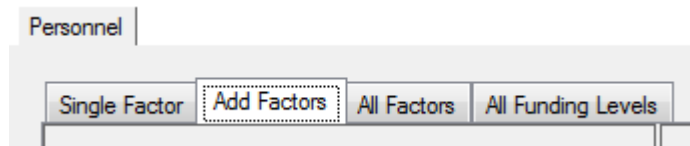

Figure 5-44. Add Factors Tab
- Choose the **Add Factors** tab (Figure 5-44).